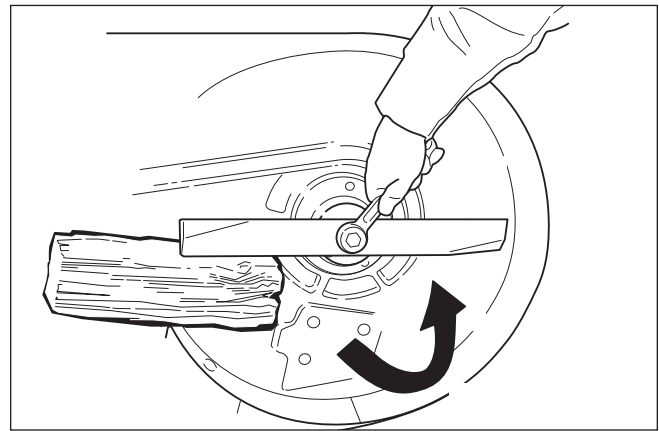

Figure 18. Loosening the Mower Blade for Removal
- To remove the mower blade, wedge a wooden block between the mower blade and the mower deck housing to keep the mower blade from turning, and remove the mower blade mounting bolt with a 15/16" wrench (Figure 18).